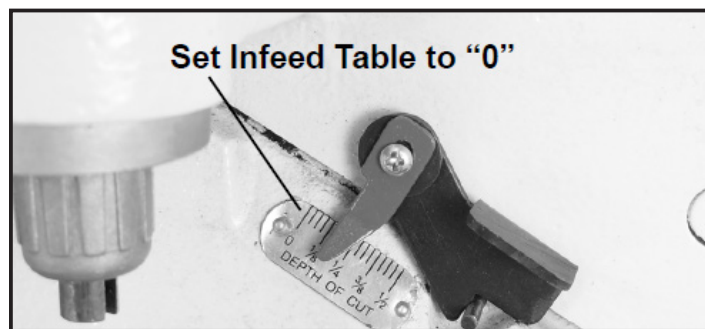

FIG.7.2.1
- Set the infeed table to the '0' setting on its depth of cut scale. FIG. 7.2.1.